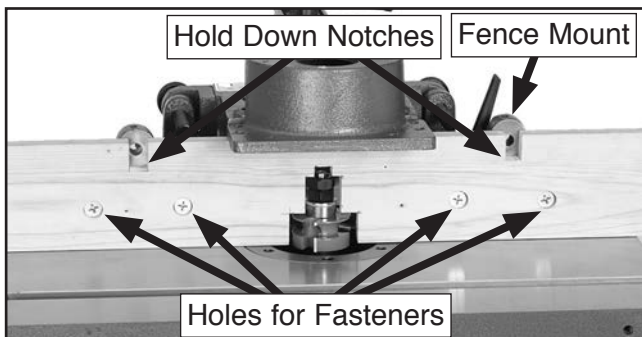

Figure 45. Example of a zero-clearance fence.
Shaping small stock is inherently dangerous on a shaper. Consider making a zero-clearance fence (see **Figure 45**) to provide more support than a standard fence and reduce tearout on narrow or fragile stock.
6. Cut notches in top of board for attaching hold-downs (see **Figure 45**), secure it to the fence mounts with the fasteners removed in **Step 2**.